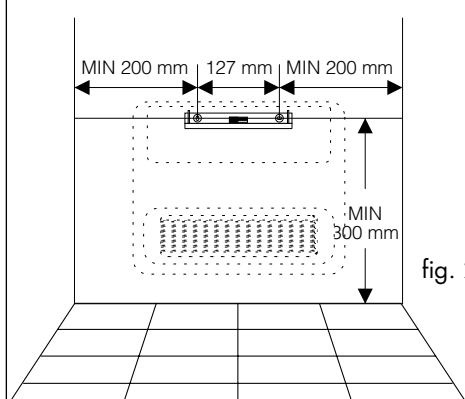

fig. 2
- Fit the wall-mounting bracket, respecting the minimum distances shown in Fig. 2.